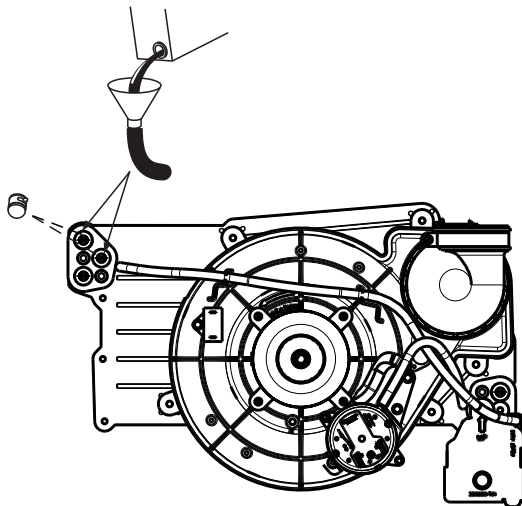

Fig. 66 - Priming Condensate Trap
4. Remove the top unused rubber plug from the port on the collector box opposite the condensate trap. See Fig. 66.
9. Remove the middle unused rubber plug from the port on the collector box opposite the condensate trap. See Fig. 66.